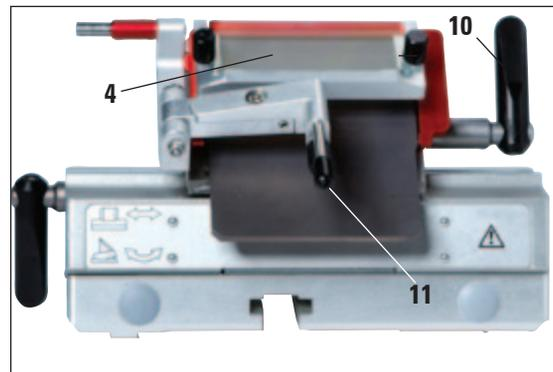

Fig. 4
4. Clamp the clamping lever (10) by turning it clockwise (see Fig. 4).
5. Fold the anti-roll system (4) back to the right (toward the blade) using the lever (11).